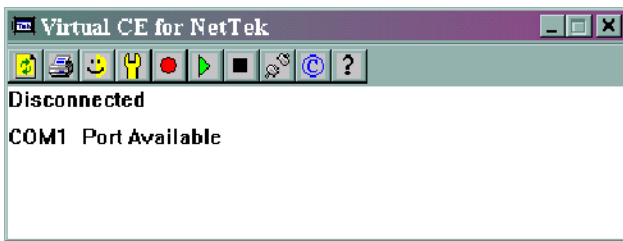

Figure 3-3: Virtual CE for NetTek window
1. Select **Start > Programs > Virtual CE for NetTek > Virtual CE for NetTek**. This displays the Virtual CE for NetTek window shown in Figure 3-3.